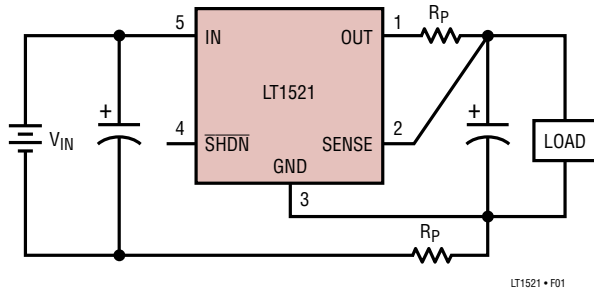

Figure 1. Kelvin Sense Connection
**SENSE (Pin 2):** For fixed voltage versions of the LT1521 (LT1521-3, LT1521-3.3, LT1521-5), the sense pin is the input to the error amplifier. Optimum regulation will be obtained at the point where the sense pin is connected to the output pin of the regulator. In critical applications small voltage drops caused by the resistance ( $R_P$ ) of PC traces between the regulator and the load, which would normally degrade regulation, may be eliminated by connecting the sense pin to the output at the load as shown in Figure 1 (Kelvin Sense Connection). Note that the voltage drop across the external PC traces will add to the dropout voltage of the regulator. The sense pin bias current is  $5\mu\text{A}$  at the nominal regulated output voltage. This pin is internally clamped to  $-0.6\text{V}$  (one  $V_{BE}$ ).